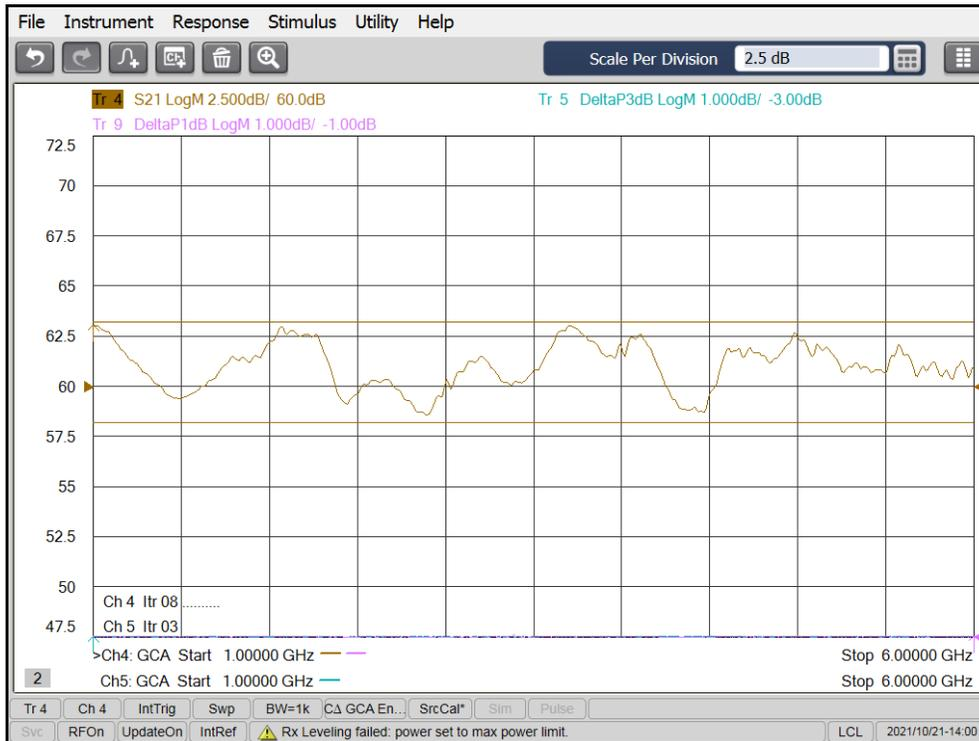
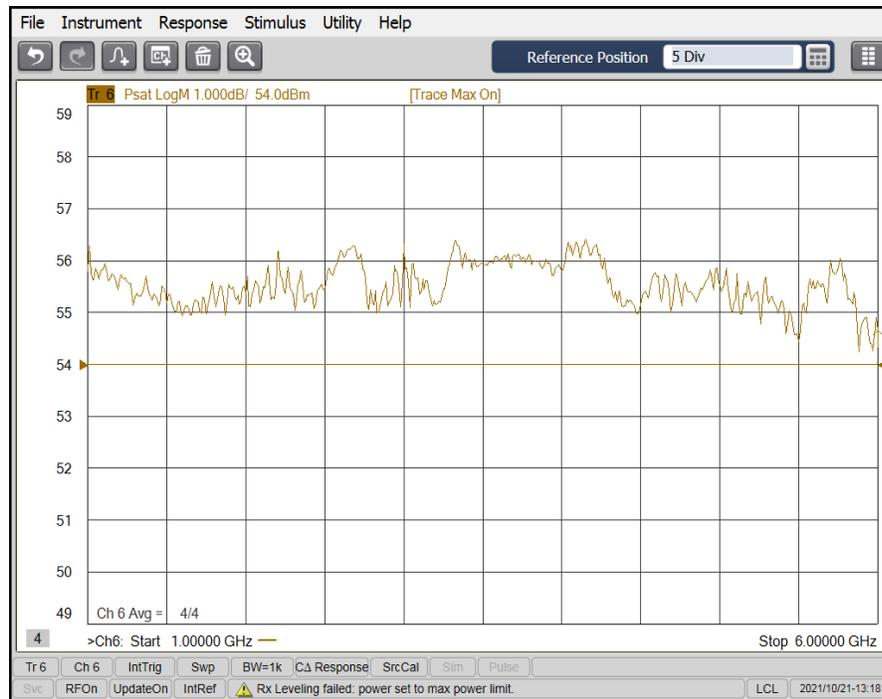

Figure 4-1. Typical Response at -20 dBm Input
Figure 4-2. Typical Response at 0 dBm Input
1. The Model 250SIG6C’s typical gain response at -20 dBm input and 0 dBm input is shown in Figure 4-1 and Figure 4-2. The actual gain may vary considerably from that shown in these Figures but should be ≥ 32 at -20dBm input and ≥ 48 at 0dBm input.